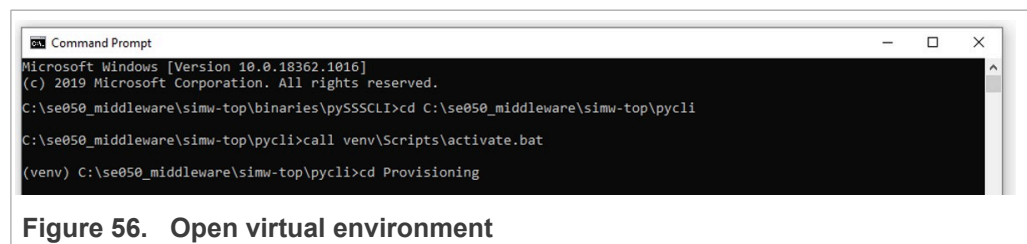

Figure 56. Open virtual environment
4. We use the pycli tool again to generate the verification certificate. If you have the command prompt still open, go to the next step. If you have already closed it, open one, go to `simw-top\pycli\` folder as shown in Figure 56, and type the following commands: